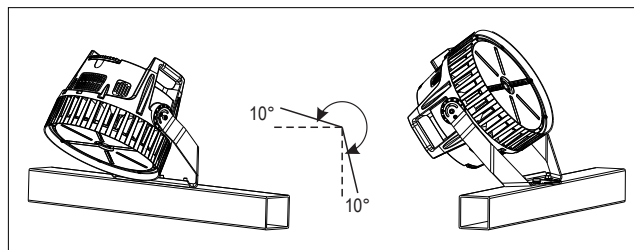

Figure 7
- Adjust the projection angle as needed; the adjustment range is shown in Figure 7.